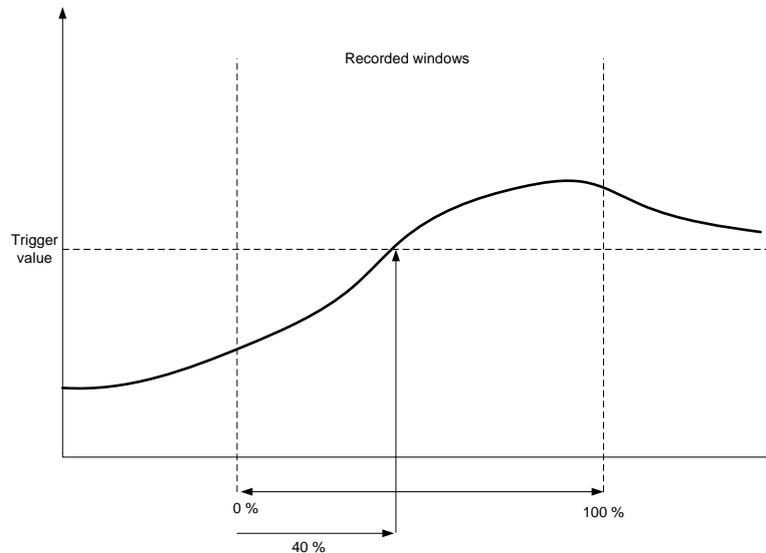

Fig. 3-103: Data log example with trigger “greater than threshold” and 40% of pretrigger
- **Trigger position [8611]:** this parameter sets the trigger position in percentage of the length of recordable data for each track. In Fig. 3-103 there is an example of trigger configuration "greater than threshold" and trigger position = 40%.